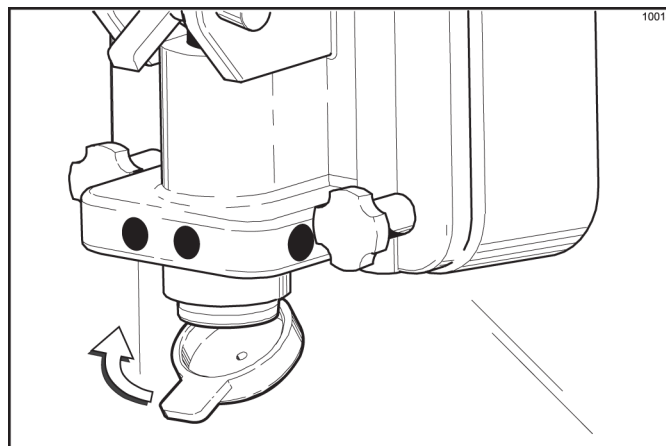

Figure 6-20
19. Snap the restrictor cap over the end of the door spout. (See Figure 6-20.)